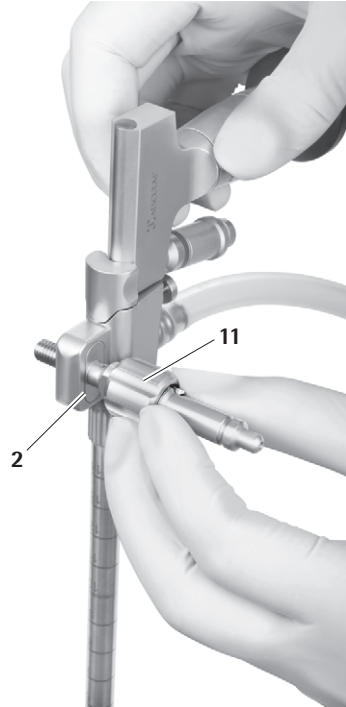

Fig. 18
- ▶ Insert the holding arm adapter **11** laterally into the hole (either right or left), until the flange engages in the appropriate groove **2** that secures the holding arm in place, see Fig. 18.